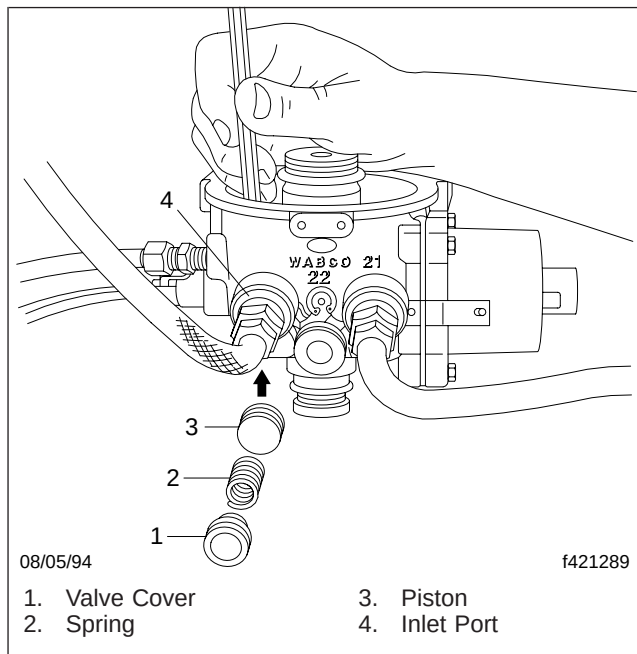

Fig. 1, Pushing the Piston, Spring, and Cover out of the Valve Cavity.
2. Remove the snap ring at the bottom of the valve assembly. The valve cover and spring may fall out of the cavity when the snap ring is removed. See Fig. 1.